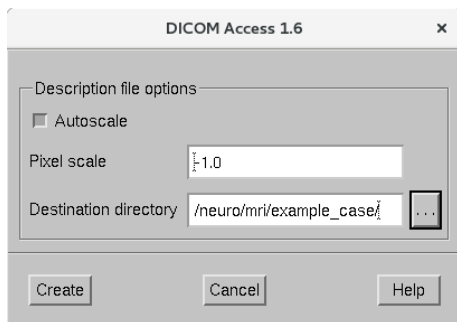

Figure 8: Set destination directory.
- Select **Create** (Figure 8).